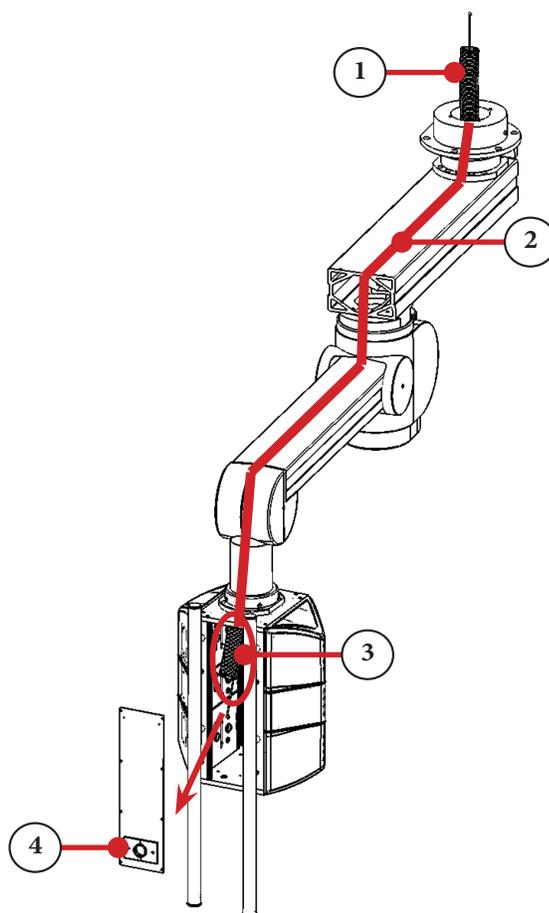

Figure 6.5 - Cable Pull Route
9. Extend the boom arms into the position shown in Figure 6.5, with both arms fully extended for the easiest cable pull.